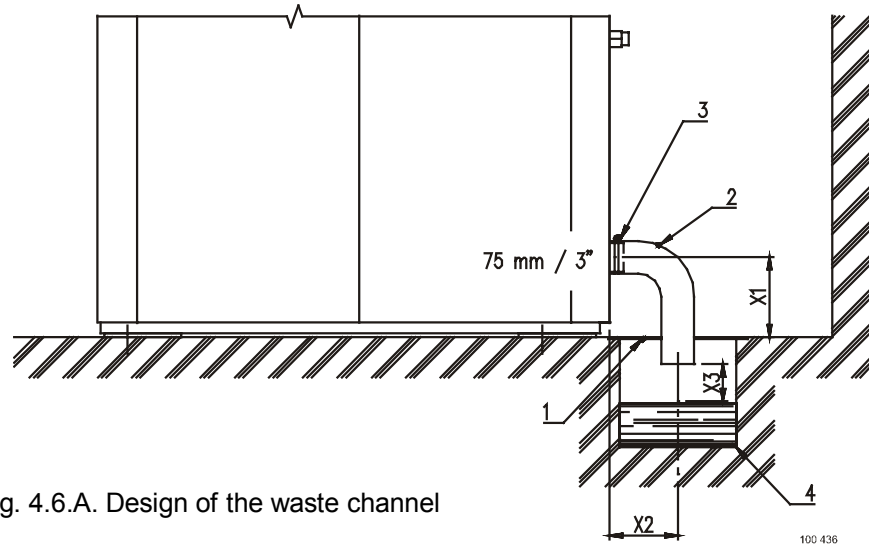

Fig. 4.6.A. Design of the waste channel
The main drainpipe must have the capacity to be able to handle the total output of all connected machines. There must also be a hole every twenty meter in the drainpipe, fig. 4.6.B, pos 1 to assure the good working of the drain. This allows air in the main drain and facilitates drainage of the water flow. Every time a machine is coupled on the drainpipe, the diameter of the tube or the width of the waste channel must be more. See, fig. 4.6.B, D1,D2,D3.